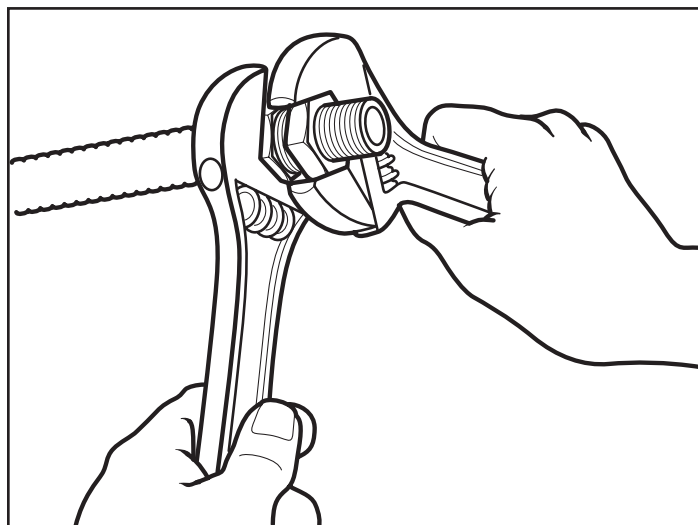

Figure: 4-5
5. FINAL TORQUE: To ensure a proper and leak-tight connection, please follow the torque values mentioned in **Table 4-4** while tightening the nut and adapter. If you are installing the field version, please use the following method: Tighten the nut and adapter as if you were tightening a flared tubing joint. Observe the relationship between the hex flats at this point and continue tightening for two more hex flats (one-third turn) to achieve the required torque and a final leak-tight seal (Figure 4-5).